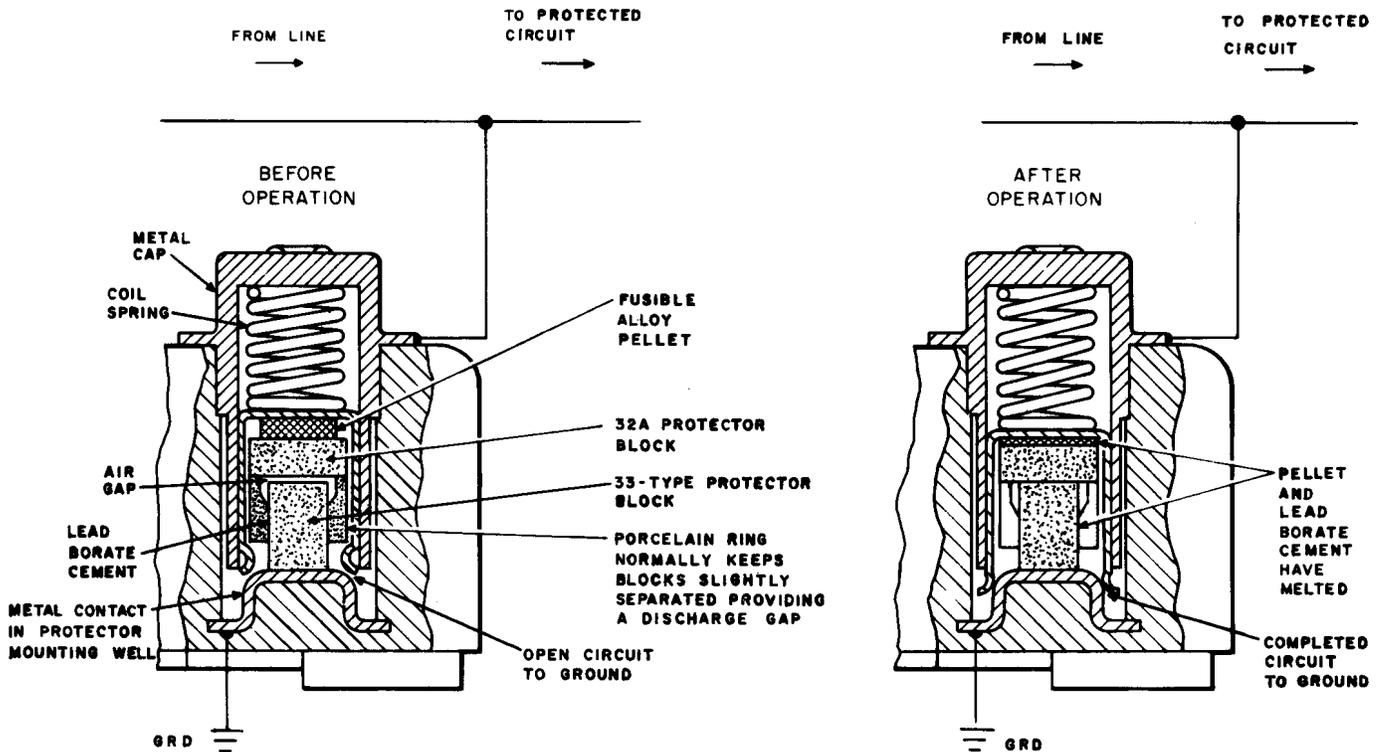

Fig. 11—2B-Type Protector Unit Operating Sequence
3.04 The operating sequence of the 2B-type protector unit is shown in Fig. 11.